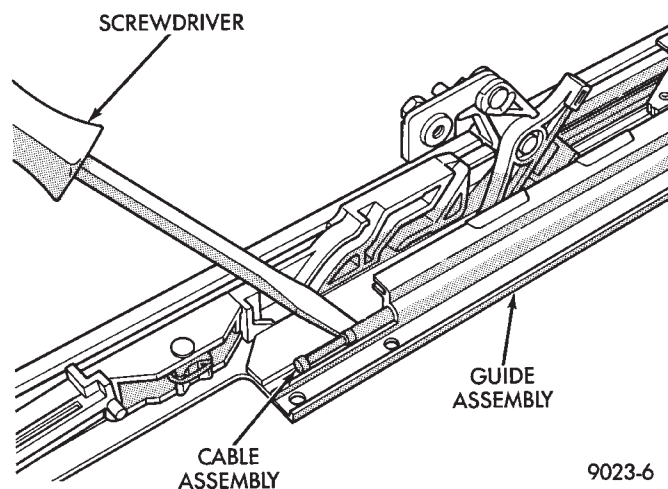

Fig. 6 Drive Cables
(1) Open sunroof to vent position.
(2) Remove headlining, wind deflector, mechanism covers, glass panel, side glass adjustment brackets, motor and drive cable locators.
(3) Lift cable out of cable retainer and pull forward. Separate cable from assembly Fig. 6.